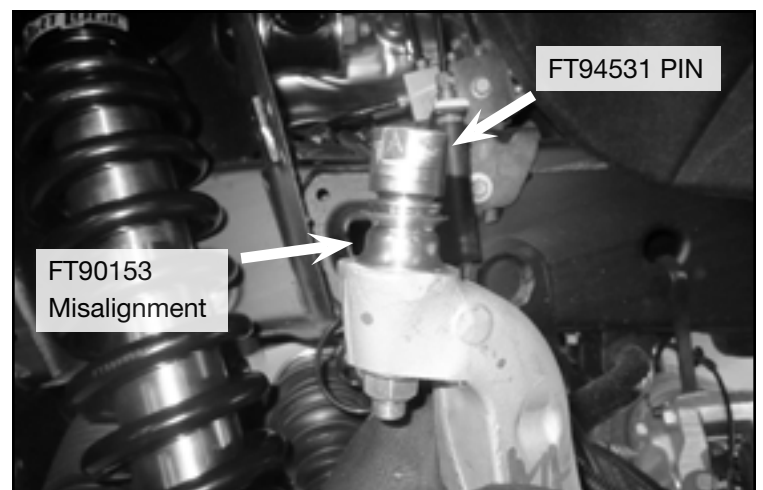

FIGURE 15 - STEP 13
13. Install FT90153 (Lower misalignment) onto FT94531 (Uniball Pin). Then, install into the factory control arm using the supplied 1/2" nut and washer. Torque the nut to 120 ft-lbs. using a 15/16" open end wrench on the pin end. **SEE FIGURE 15**